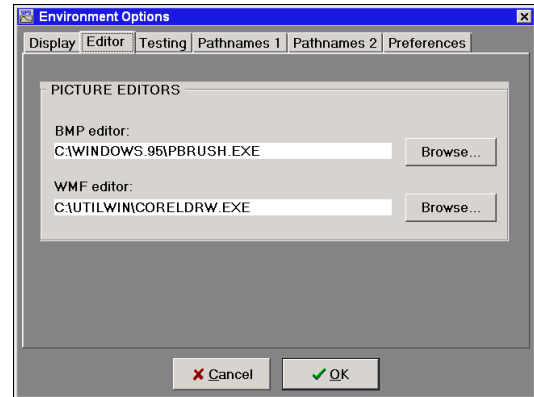

Fig. 13: Register »Editor«
- On the register *Editor* you can specify the path of the graphic-editor to design the bitmaps for the test program with. (See Fig. 13)